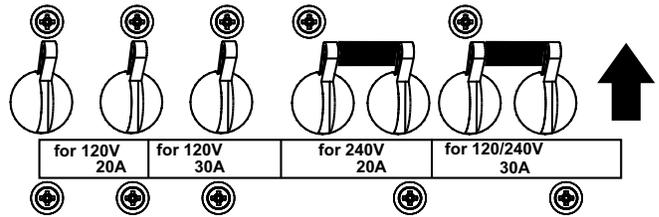

Figure 22. GFCI/AUX. Circuit Breakers (ON)
9. Place **GFCI** and **AUX.** circuit breakers (Figure 22) in the **ON** position.